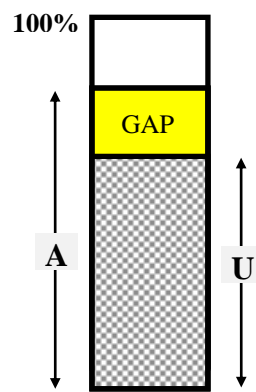

Figure 3 Equipment States
Availability (A) of a machine is defined as the total uptime of a machine. During this period the equipment CAN be used to provide its intended function or purpose. Utilization (U) or “Productive time” is the duration that equipment is in the process of performing added value tasks to/on products; it is generally referred to as the time “the machine is running parts”. Gap or “standby Time” is defined as A (minus) U (see Figure 3).